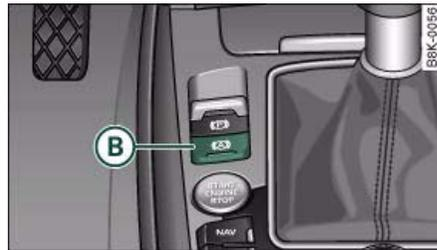

Fig. 133 Detail of the centre console: Button for Audi hold assist
- Press button **B** ⇒ fig. 133 in the centre console to switch on the Audi hold assist function. The indicator lamp in the switch will light up.
- Press button **B** ⇒ fig. 133 to switch off the Audi hold assist function. The indicator lamp in the switch will go out.